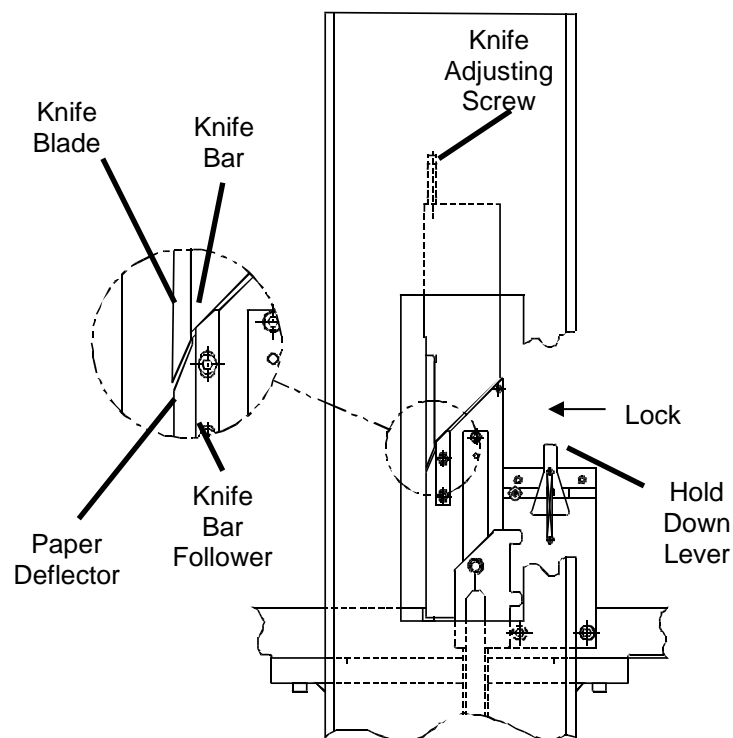

Figure 18
2. Lock the paper deflector down by switching the hold down lever to the locked position (Fig. 18).